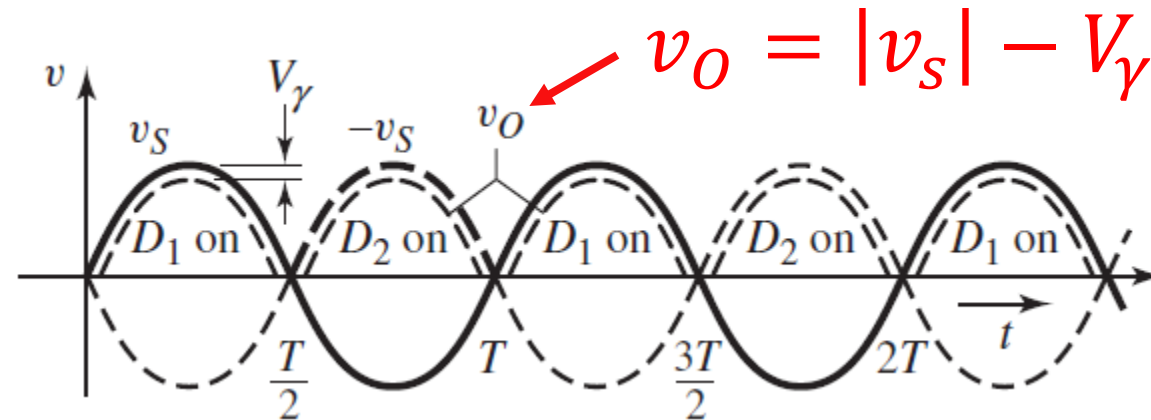

Figure 2.5 (c)
- Then we obtain the **voltage transfer characteristics (VTC)**,  $v_o$  versus  $v_s$ , shown in Figure 2.5(b).
- The corresponding input and output voltage signals are shown in Figure 2.5(c).